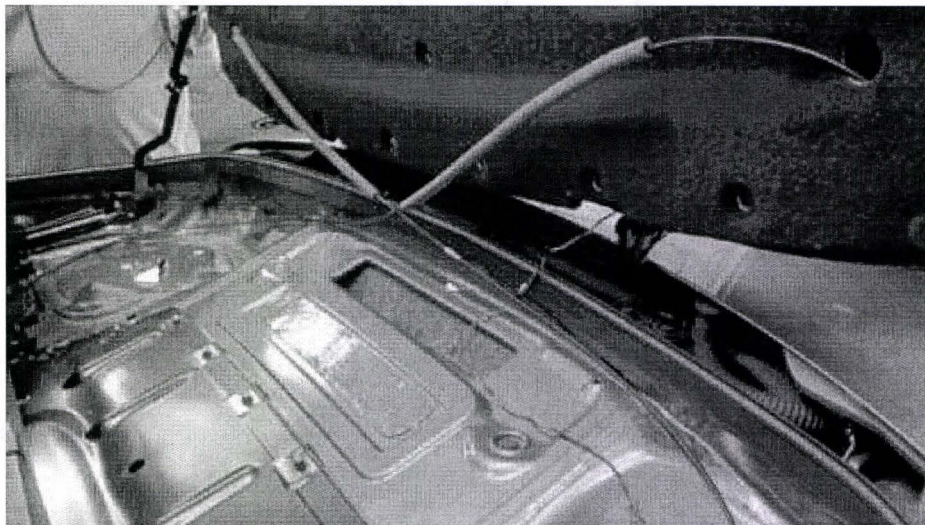

Figure 7
5. Loosely position the modified tonneau carpet panel feeding the right Bowden cable through the hole produced in the left hand side of the carpet and left hand Bowden cable through the right hand hole (see Figure 7)